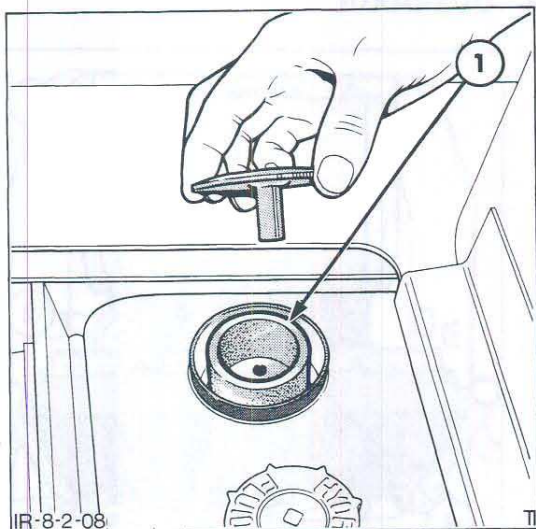

Figure 6
1. Remove the cover from the breather located adjacent to the filler cap in the top of the reservoir and discard the spacer. Refer to Figure 6.